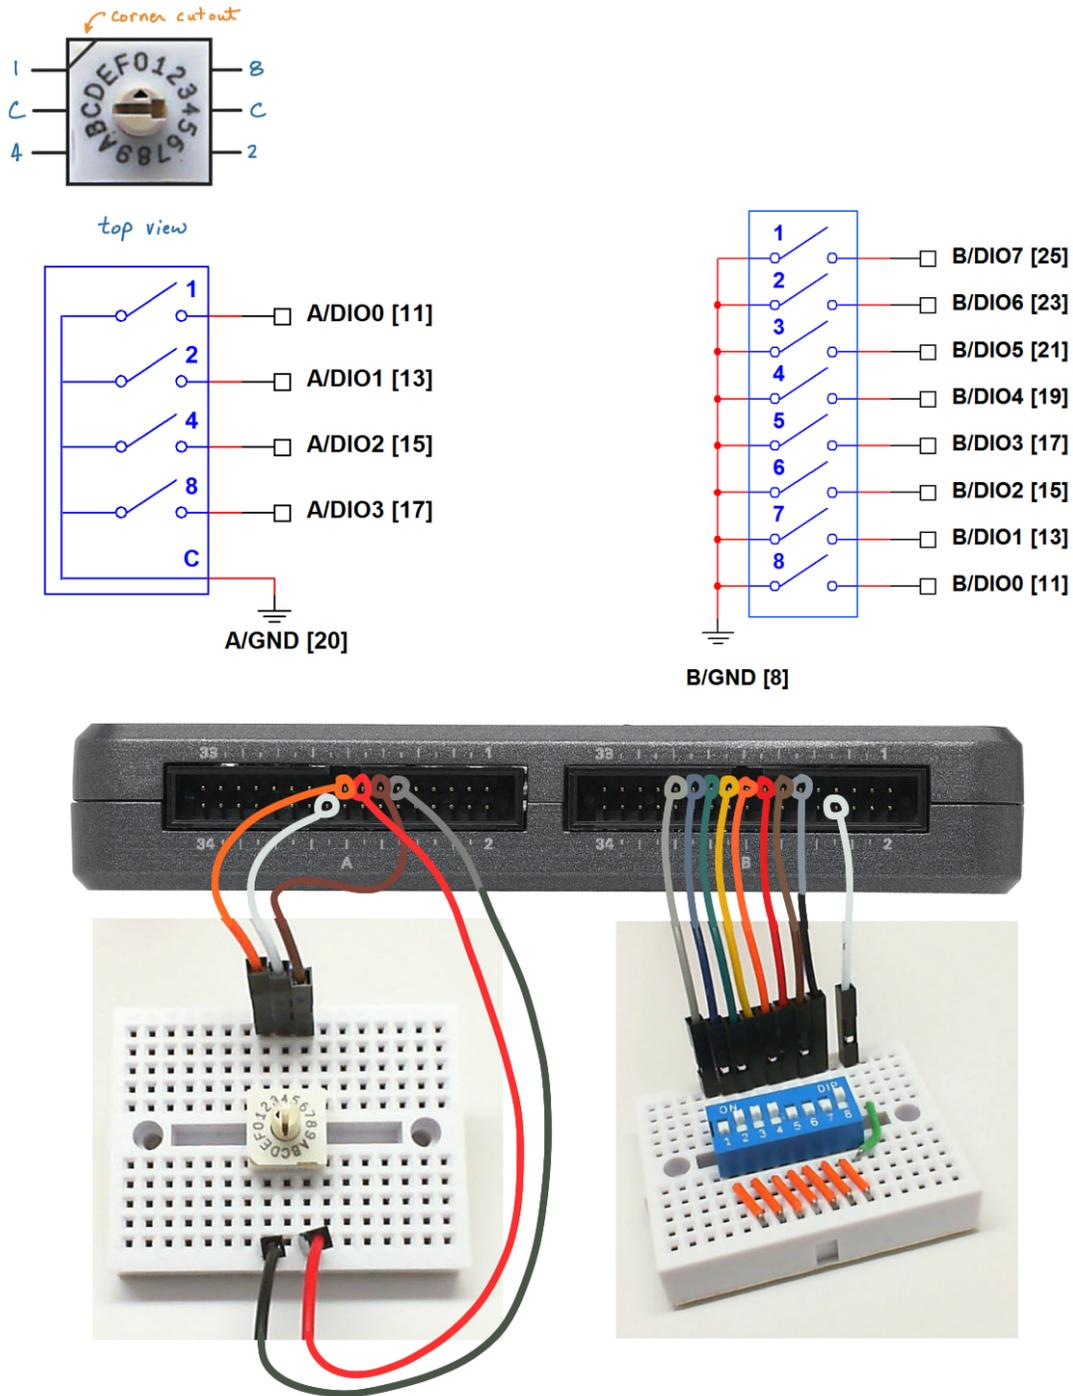

Figure 5.2: Demonstration circuit for DIP switches: schematic diagram, recommended breadboard layout, and connection to NI myRIO MXP Connectors A and B.
**Build the interface circuit:** Refer to the schematic diagram and recommended breadboard layout shown in Figure 5.2 on the facing page. The DIP switches interface circuit requires five connections to NI myRIO MXP Connector A and nine connections to Connector B: